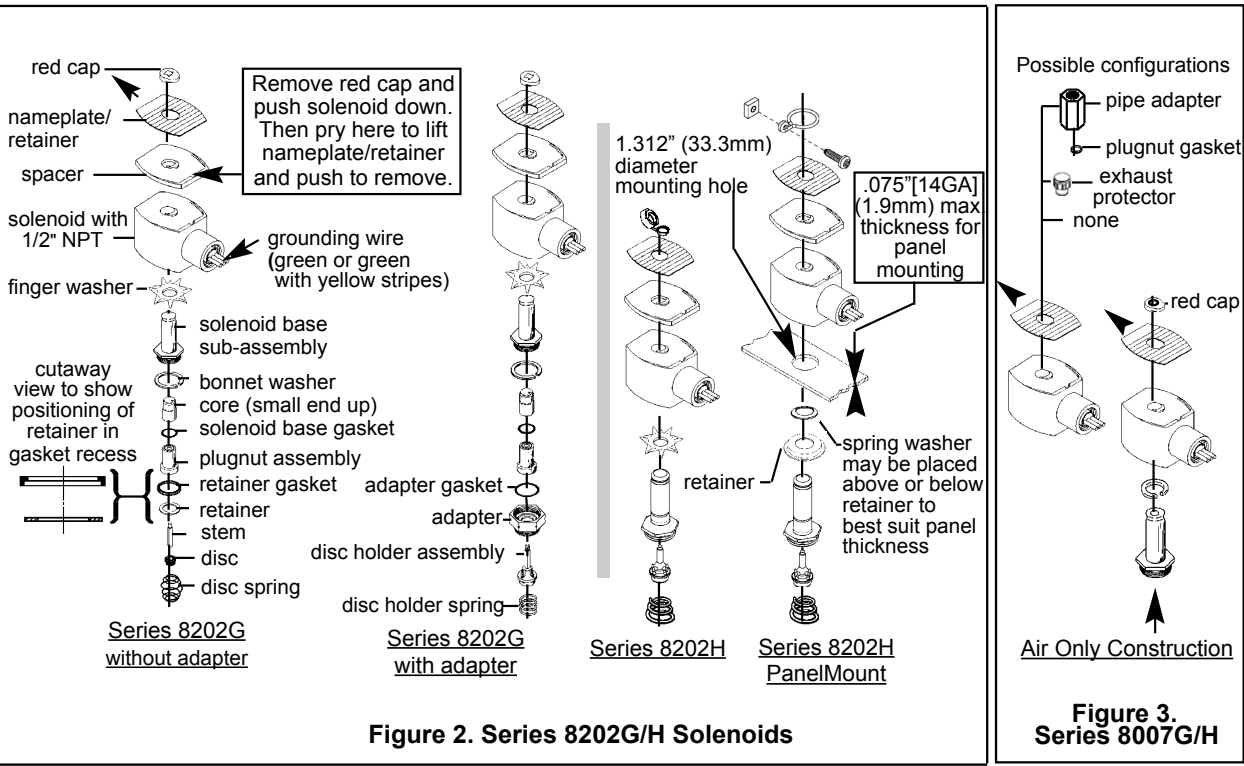

Figure 2. Series 8202G/H Solenoids
2. Install solenoid base sub-assembly through customer panel. 8202H panel mounted solenoids include a retainer to adapt the solenoid base sub-assembly to the customer panel. (See Figure 2)